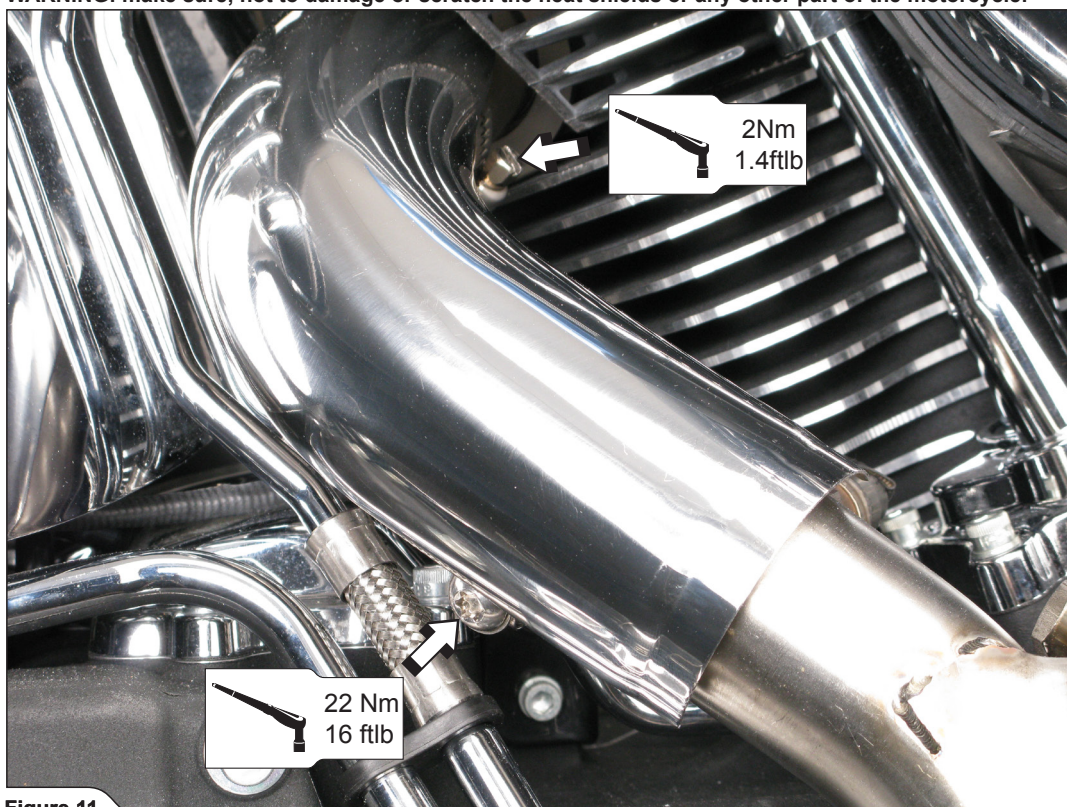

Figure 11
11. Correctly attach both heat shields onto the headers, align them in respect to the pipes and tighten the tape clamps and clamps at the headers - collector joints to the specified torques (Figure 11, 12).